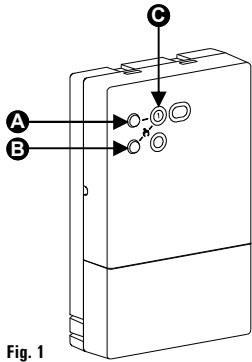

Fig. 1
### LED (C in Fig. 1)
### SELF-LEARNING BUTTON (A in Fig. 1)
### MANUAL DRIVE BUTTON (B in Fig. 1)
- Press the self-learning button for a second A of Fig.1. The self-learning procedure is started: the receiver's LED will blink quickly yellow.